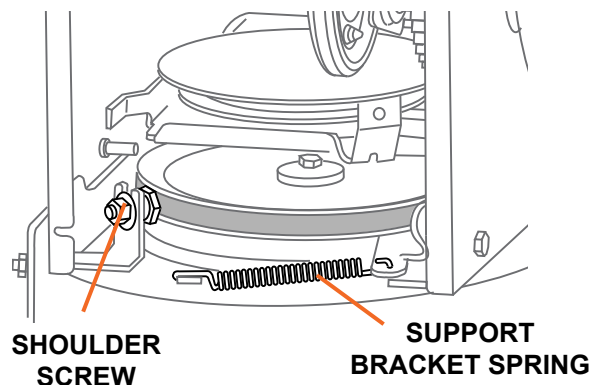

Figure 21
4. Loosen and remove the shoulder screw which restrains the belt from jumping off of the pulley. Unhook the support bracket spring from the frame (see Figure 21).